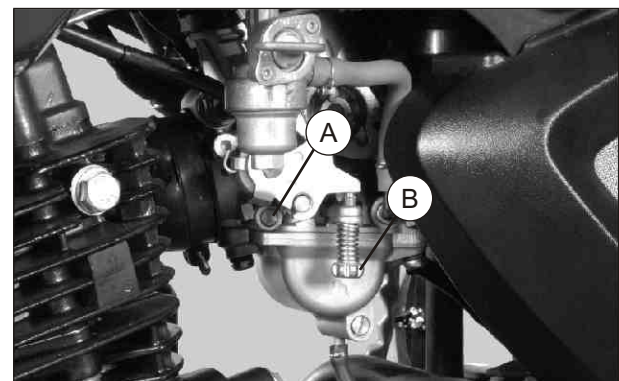

Fig. 2.27
- If engine performance is good, the adjuster (A) (MCS screw) need not be disturbed. The idling speed can be adjusted only by the adjuster (B) (idling screw) to  $1400 \pm 100$  rpm. Rotating the adjuster in clockwise direction increases the rpm and rotating in counter clockwise decreases the rpm. (Fig. 2.27)